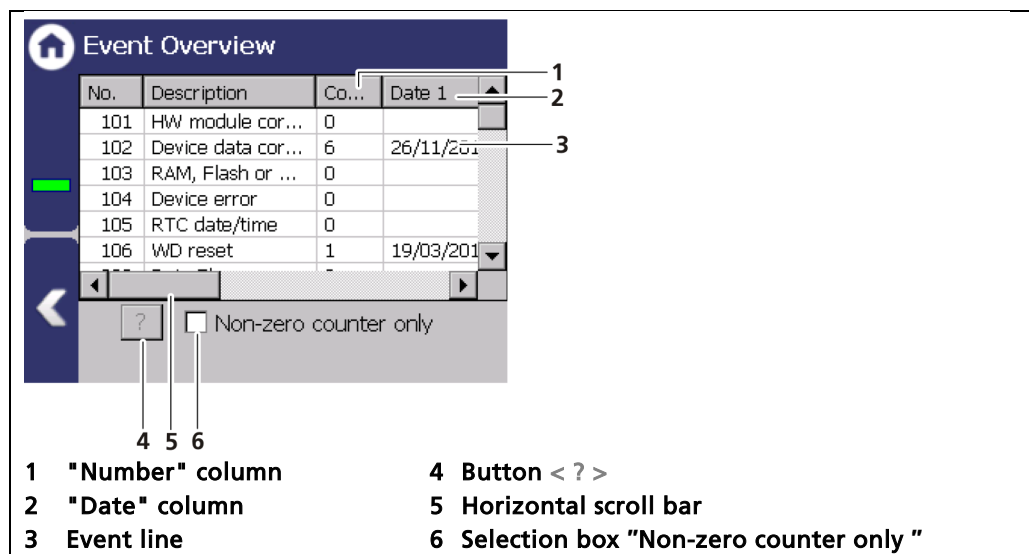

Fig. 78 Event overview
All events that can be logged are chronologically presented in tabular form in the submenu "Event overview". Activate the check box "Non-zero counter only" (Fig. 78, item 5) in order to display events that have occurred.
1. Click on a line in the list (Fig. 78, item 3).
2. Click on <?> (Fig. 78, item 47).